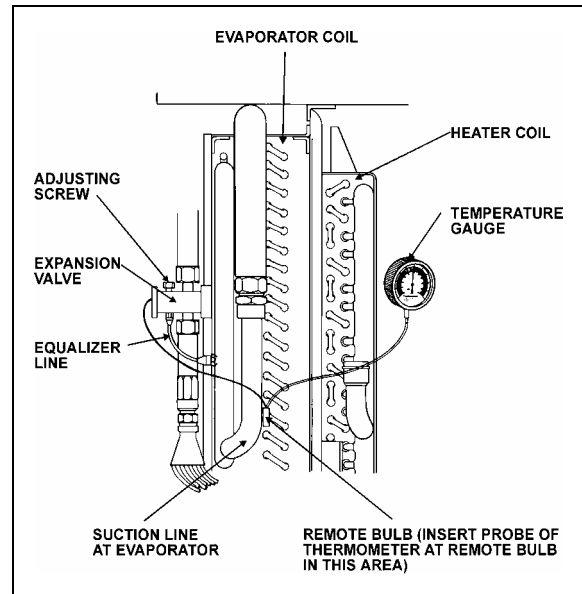

FIGURE 35: SUPERHEAT ADJUSTMENT INSTALLATION²²⁰⁴⁶
The starting method of adjusting the superheat is to unscrew completely the main evaporator expansion valve adjusting screw, then screw in 13 turns clockwise for 134A (Fig. 35). Afterwards, the following procedure should be followed:
3. Install a remote reading thermometer to the evaporator outlet line near the existing remote bulb (Fig. 35).